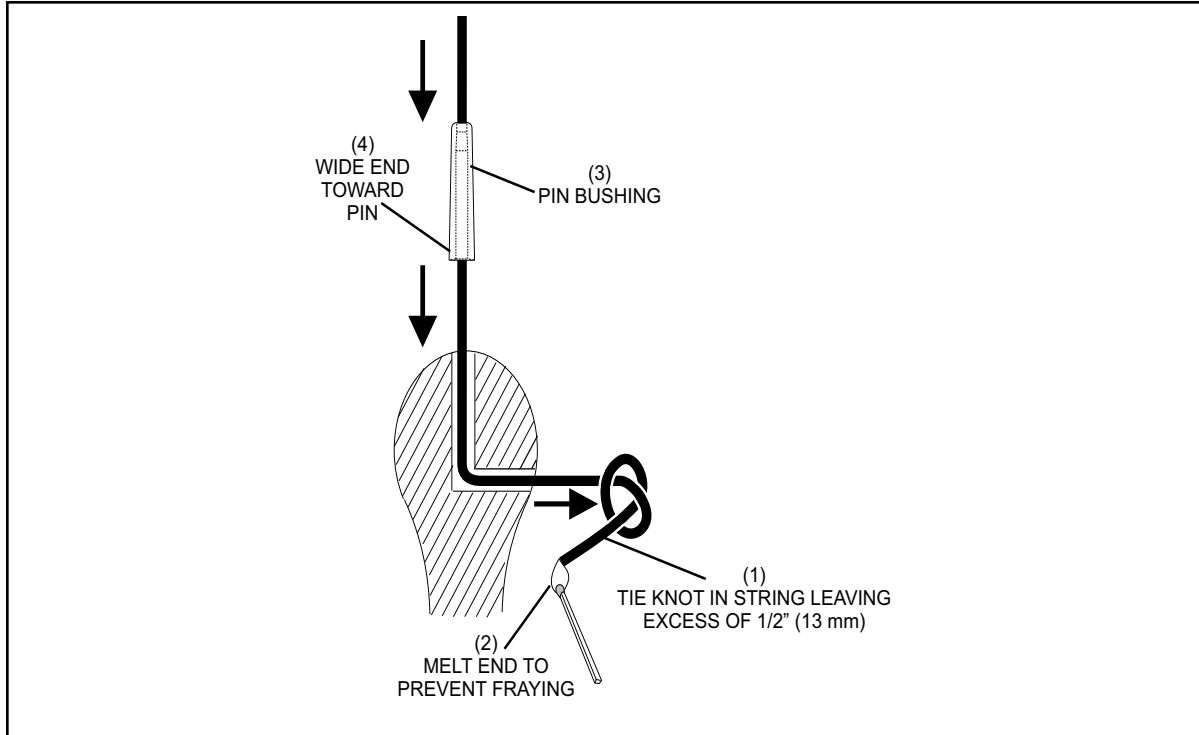

Figure 8. Pin String and Bushing Installation
- a. Route string through the centering cone assembly. Thread the string through a Pin Bushing and head of the pin. Refer to *Figure 8*.